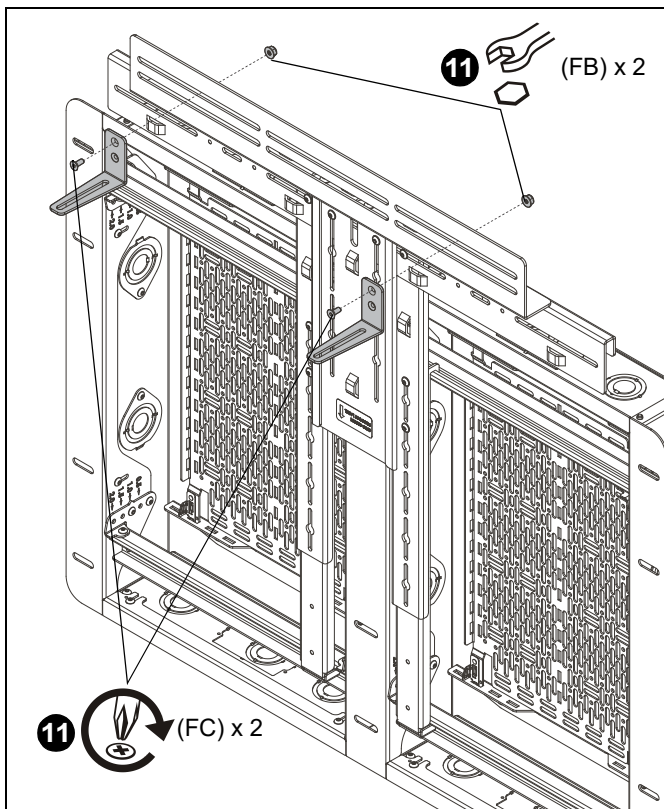

Figure 10
- Use 1/4-20 x 1/2" Phillips flat head cap screws (FC) and #10-24 lock nuts (FB) to secure soundbar adapter brackets (A) to soundbar bracket (C). (See Figure 10)